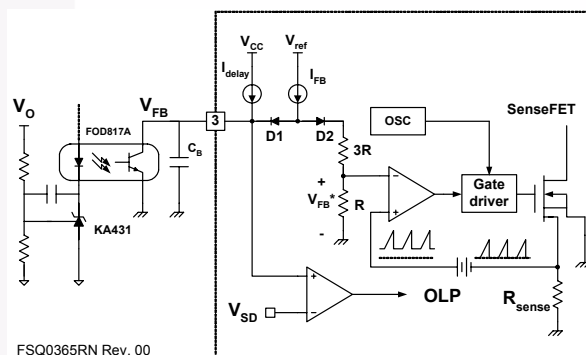

Figure 21. Pulse-Width-Modulation (PWM) Circuit
**2. Feedback Control:** FPS employs current mode control, as shown in Figure 21. An opto-coupler (such as the FOD817A) and shunt regulator (such as the KA431) are typically used to implement the feedback network. Comparing the feedback voltage with the voltage across the  $R_{SENSE}$  resistor makes it possible to control the switching duty cycle. When the reference pin voltage of the shunt regulator exceeds the internal reference voltage of 2.5V, the opto-coupler LED current increases, thus pulling down the feedback voltage and reducing the duty cycle. This event typically happens when the input voltage is increased or the output load is decreased.
**2.1 Pulse-by-Pulse Current Limit:** Because current mode control is employed, the peak current through the SenseFET is limited by the inverting input of PWM comparator ( $V_{FB}^*$ ), as shown in Figure 21. Assuming that the 0.9mA current source flows only through the internal resistor ( $3R + R = 2.8k$ ), the cathode voltage of diode D2 is about 2.5V. Since D1 is blocked when the feedback voltage ( $V_{FB}$ ) exceeds 2.5V, the maximum voltage of the cathode of D2 is clamped at this voltage, thus clamping  $V_{FB}^*$ . Therefore, the peak value of the current through the SenseFET is limited.